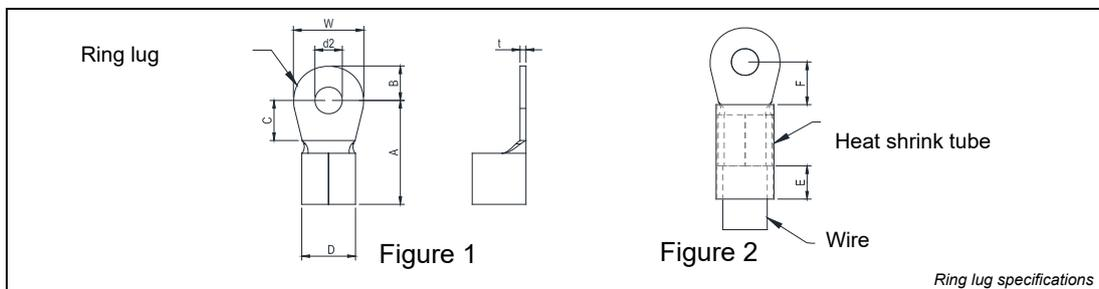

Fig. 6-5: Ring lug and insulated heat shrink tubing (UL compliant) specifications
- Use the specified ring lug for main circuit terminal wiring. See “Figure 1” and “Figure 2” in fig. 6-5 for ring lug specifications. For other types of wiring use the wires that comply with the local regulations.
- After crimping the wire to the ring lug (must be UL approved), UL and CSA approved recognized component (YDPU2), install heat shrink tubing rated at a minimum of 600 V AC insulation over the live part. Refer to “Figure 2” in fig. 6-5 below.
Tab. 6-2: Terminal specification (terminal in Fig. 6-5)